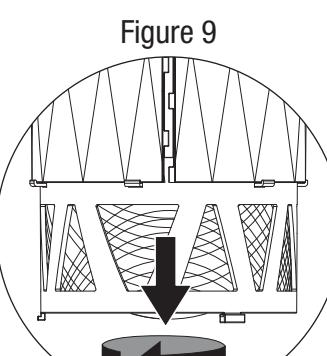

Figure 9
4. Remove the catch cup by rotating it counter-clockwise (Figure 9).